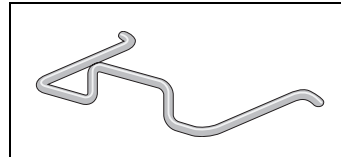

Figure 19. Power Cord Retaining Clip
1. Locate the power cord retaining clip, shown in Figure 19.